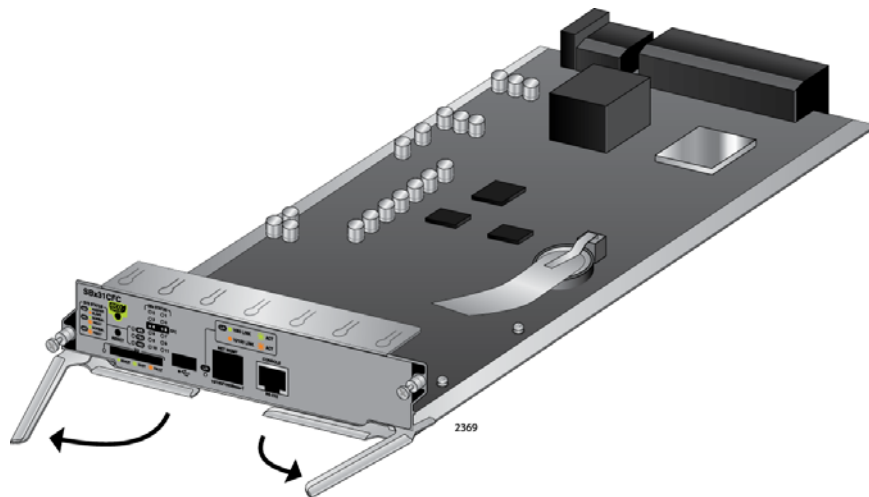

Figure 71. Opening the Locking Handles on the AT-SBx31CFC Controller Fabric Card
4. Move the locking handles on the front panel to the open position, as shown in Figure 71.